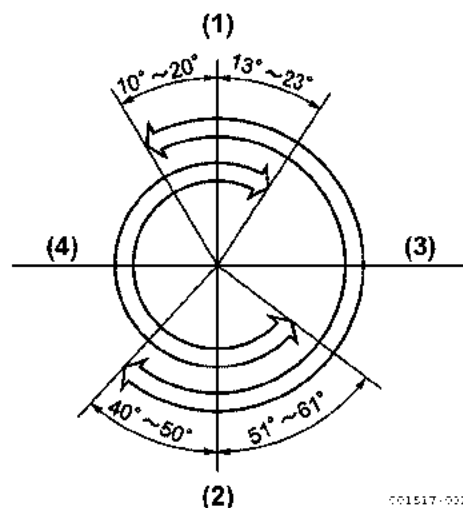

Figure 5-84
- Check the valve timing. Be sure that the opening and closing angles for both the intake and the exhaust valves are checked when the timing gear is disassembled (the gauge on the flywheel can be read). All JH series engines use the same valve timing procedure (Figure 5-84).